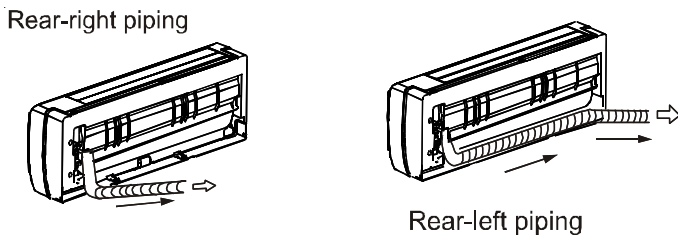

Figure 9
8. For the rear right-hand and rear left-hand piping, install as shown in Figure 9.